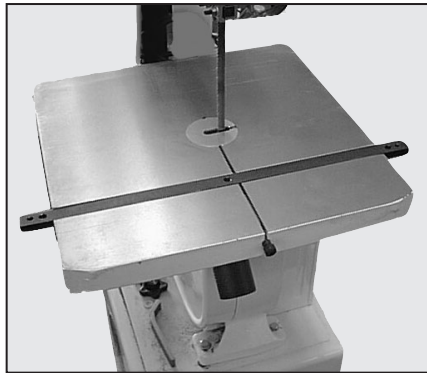

Figure 1: Center the Miter bar in your metal bandsaw table, making sure equal lengths protrude.
2. Insert the 18" miter bar in the bandsaw miter slot, so that it overhangs the metal table the same distance on both ends, see Fig. 1.